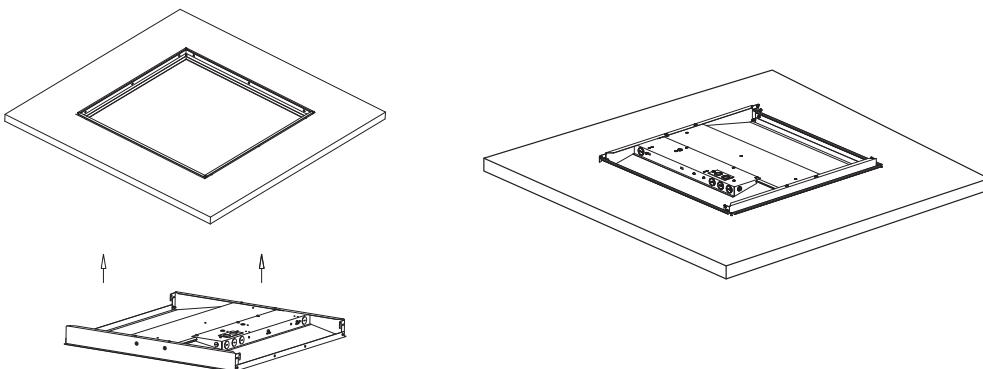

Figure 6
- Ensure that the wiring is properly terminated. Then make all electrical connections to the fixture. Attach the wiring access cover plate.(Figure 6)
- Wire and insert fixture into ceiling and maneuver into place just as in a grid ceiling to complete installation.(Figure 6)